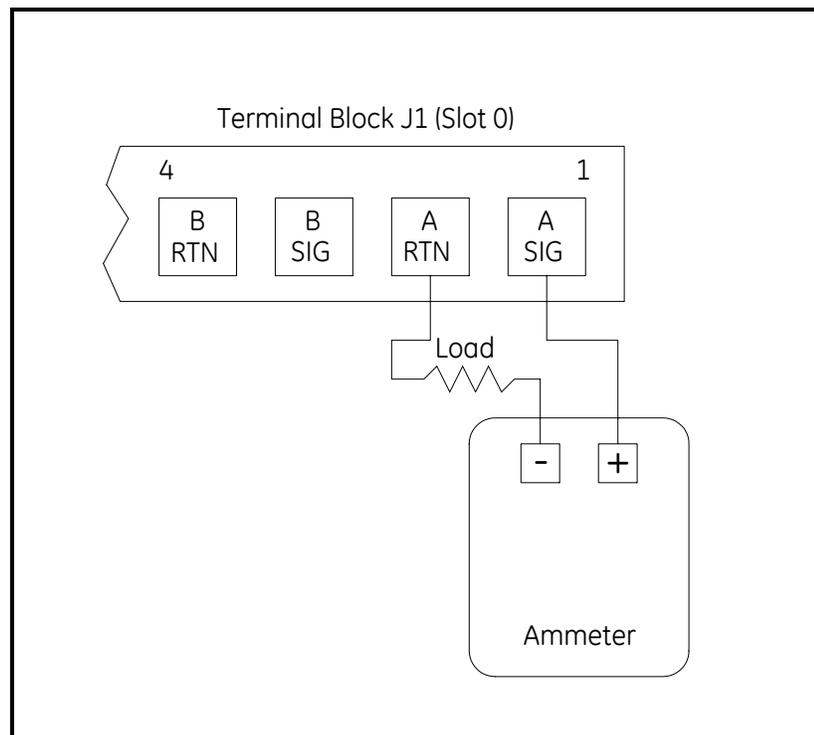

Figure 1-1: Ammeter Connection (Output A)
Prepare for calibration by inserting an ammeter in series with the load on the desired output. **DO NOT** connect the ammeter directly across the terminals. Refer to Figure 1-1 below and Figure 1-3 on page 1-12 to identify the OUT(+) and RTN(-) pins for the desired output.
**IMPORTANT:** *The procedure for calibrating all the outputs is the same. However, when calibrating a different output, be sure to reconnect the ammeter at terminal block J1. See Figure 1-1 on the previous page for the correct pin numbers.*